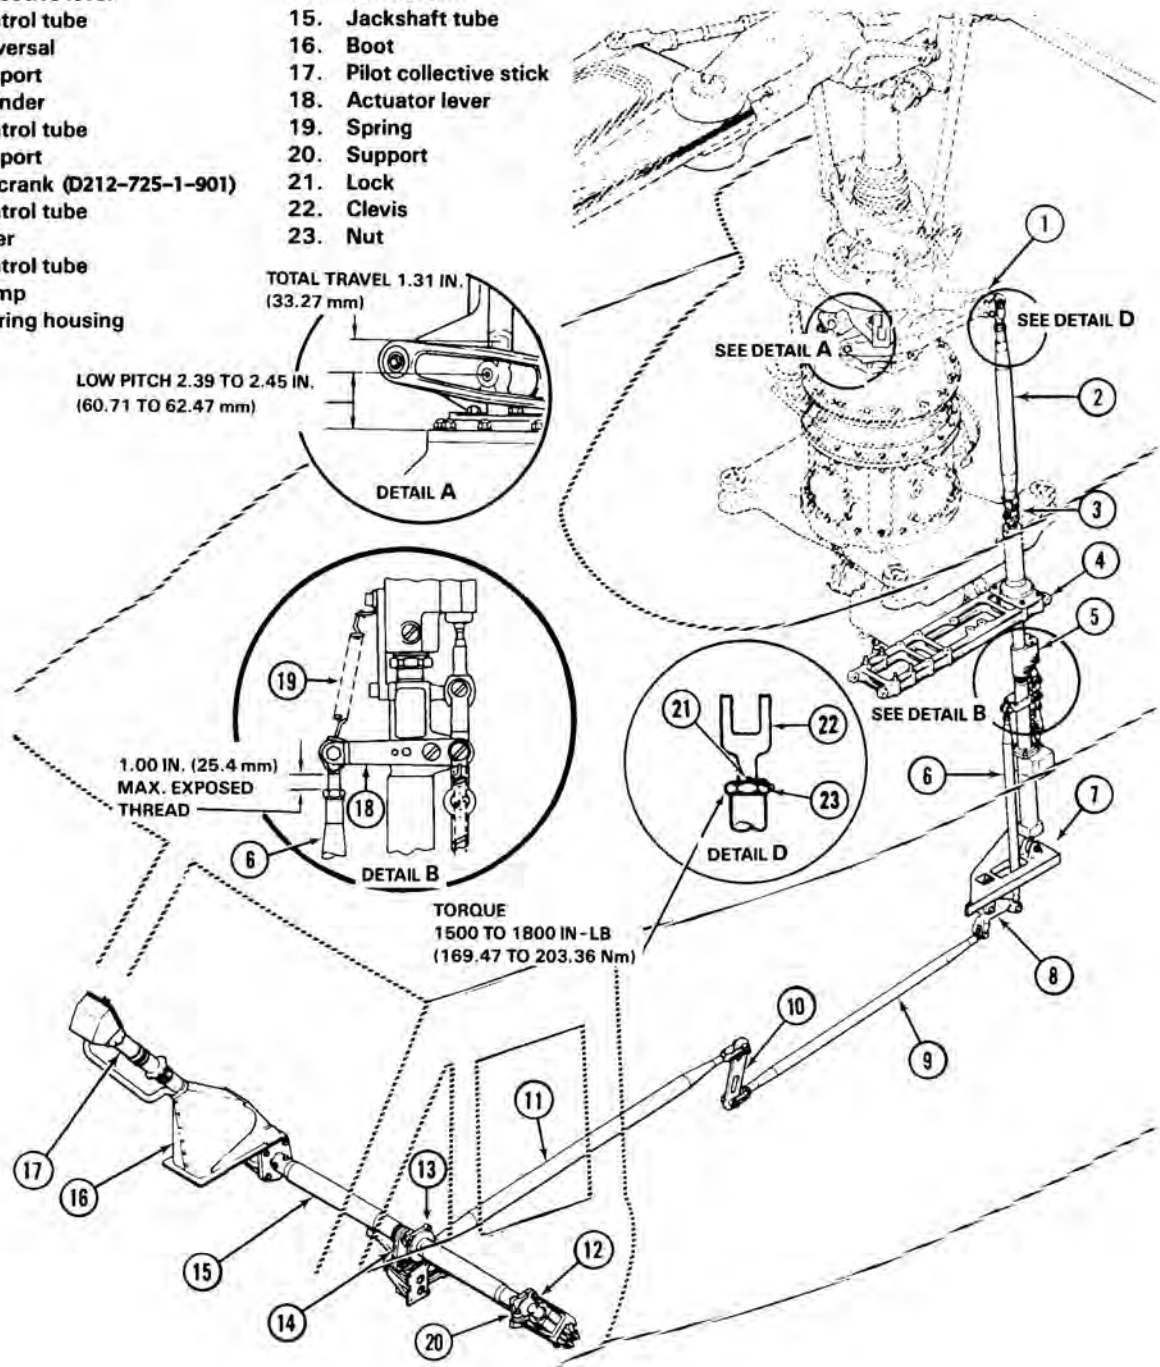
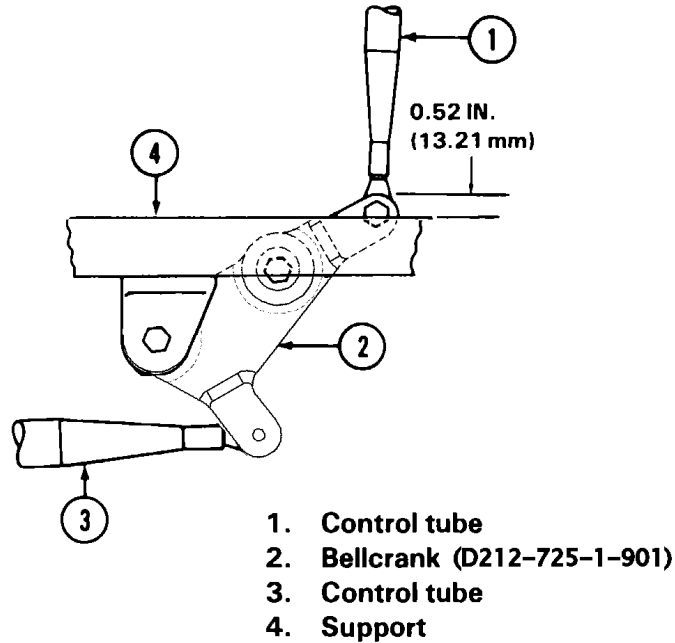

Figure 67-1. Collective Controls
Figure 67-2. Collective Bellcrank
67.1.5.1.1 Control tube (2, Figure 67-1) from collective levers (1).
67.1.5.3 For helicopters S/N 30850 and sub. or prior S/N helicopters with adjustable control tube 212-001-270-001 installed, disconnect control tube (3, Figure 67-2) at forward end and position bellcrank (2) to dimension shown. Adjust control tube (3) to fit and install on lever (10, Figure 67-1).
67.1.6.7 Adjust each extension tube (3 and 10) to correct length and attach to swashplate with bolt, washer, nut and cotter pin. Torque jamnuts on control tubes 1500 to 1800 in.lbs. (169.47 to 203.36 Nm) and secure with lockwire (C-405) (Figure 67-1, detail D).
67.1.7.13 Adjust each extension tube to correct length and attach to swashplate with bolt, washer, nut, and cotter pin. Torque jamnuts on control tubes 1500 to 1800 in.lbs. (169.47 to 203.36 Nm) and secure with lockwire (C-405) (Figure 67-1, detail D). Apply adhesive (C-308) around nut, lock, and threads on clevis.